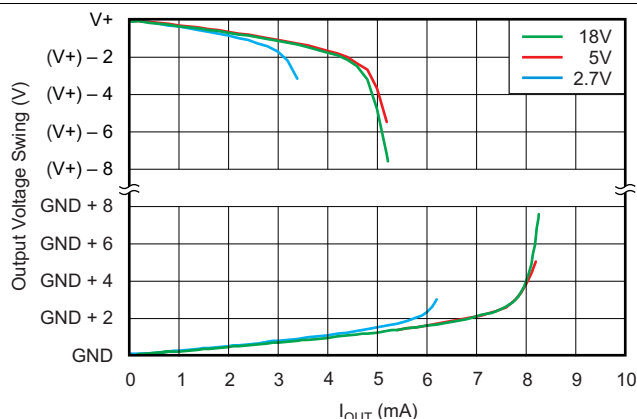

Figure 16. INA284 Output Voltage Swing vs Output Current
(6) See typical characteristic graphs Figure 16 through Figure 18.